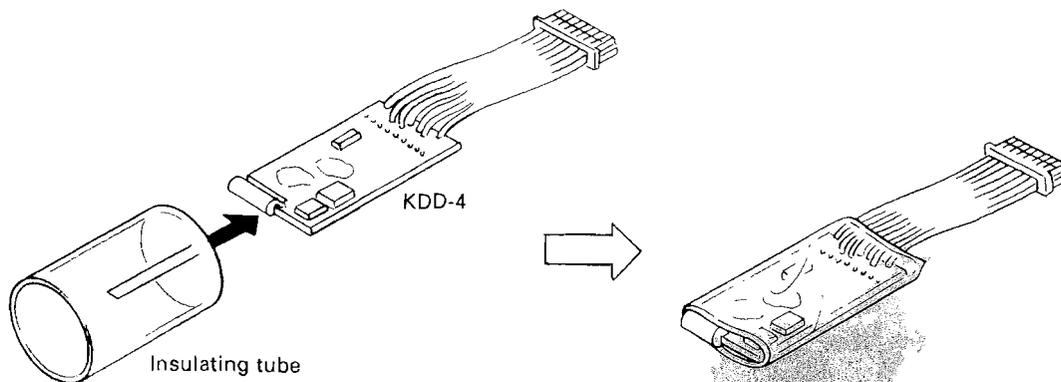

Fig. 2
2. Put an insulating tube around the KDD-4 board and heat it so that the tube encases the board. (Fig. 2)